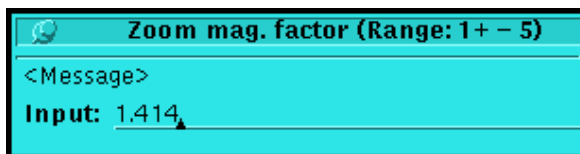

Figure 28. Zoom Magnification Factor Window
3. In the Zoom magnification factor window, enter the desired magnification factor, as shown in Figure 28.